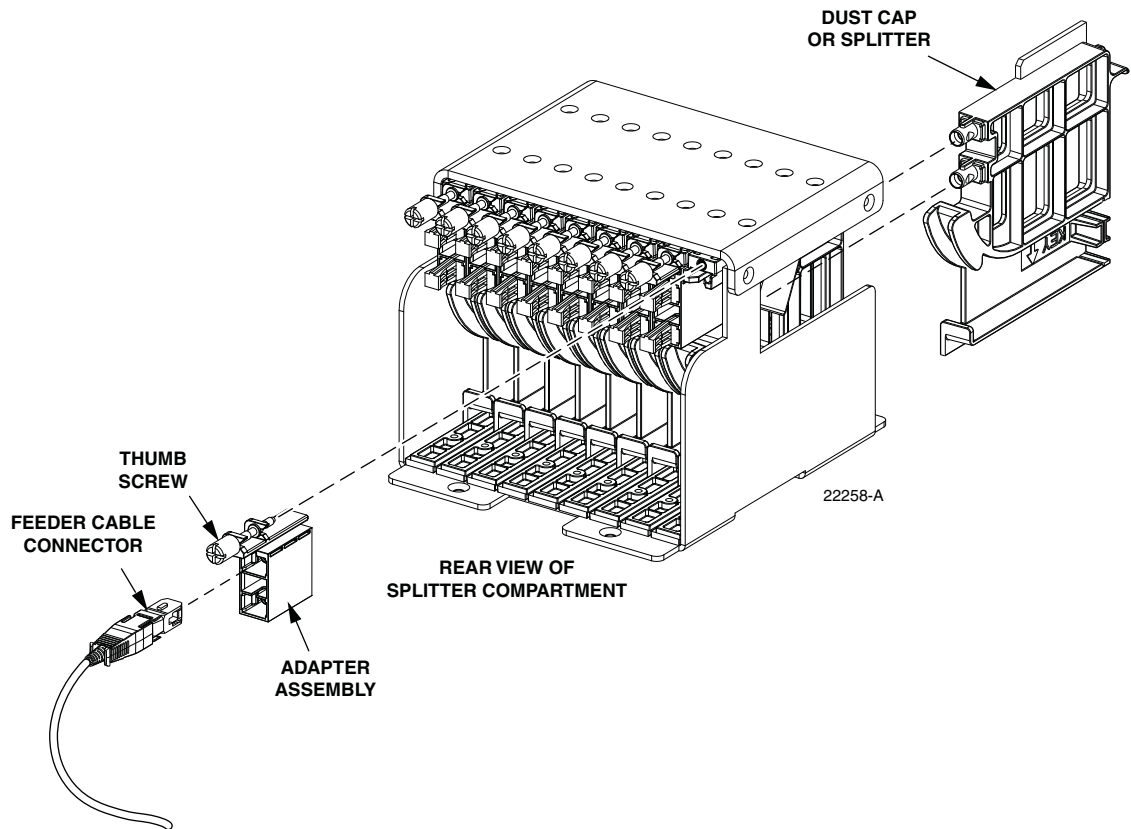

Figure 77. Splitter Compartment Adapter Replacement
3. Remove the feeder cable connector(s) from the rear side of the broken adapter assembly as shown in Figure 77 and install a dust cap on the connector(s).